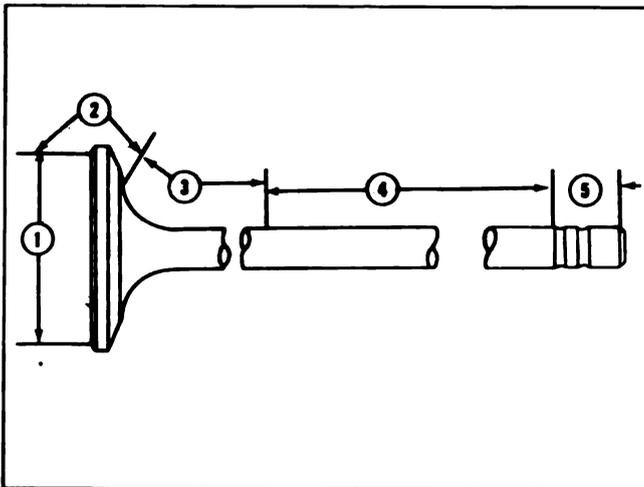

Fig. 2-14 (N10299). Areas Of Magnetic Indication.
- a. For area (1), Fig. 2-14 no indication longer than 1/2 inch [12.70 mm]. Also, no more than 5 indications, or, indications spaced closer than 1/8 inch [3.18 mm].